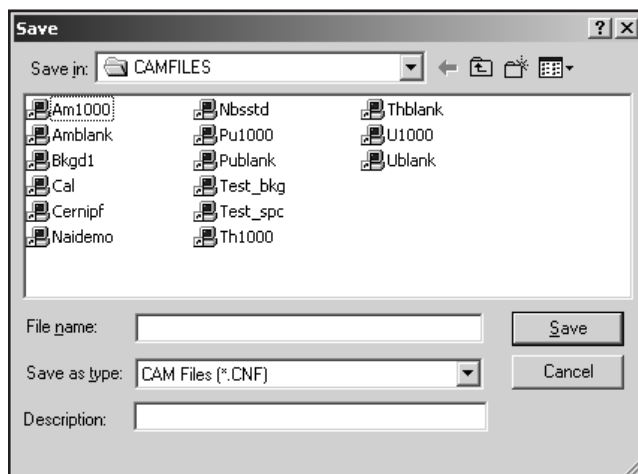

Figure 29 The Save As Dialog
**Save as** displays a dialog box (Figure 29) that prompts you for a file name to save the current datasource to.